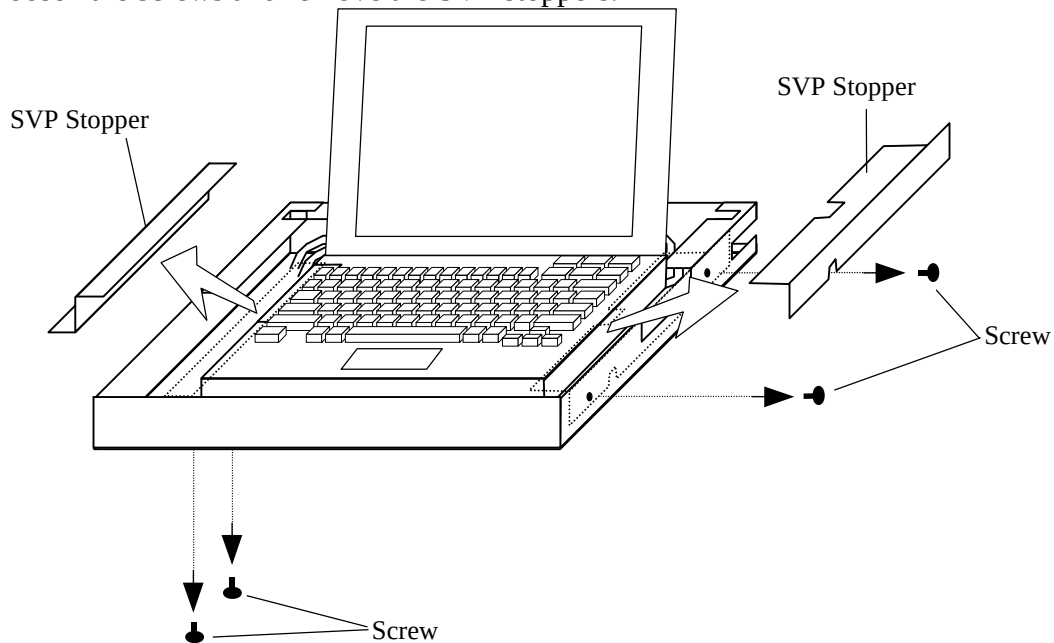

Fig. 3.18-14 Removing and installing the SVP Stoppers
- b. Install the SVP to the SVP ASSY and attach the SVP stoppers with screws. (See Fig. 3.18-14.)